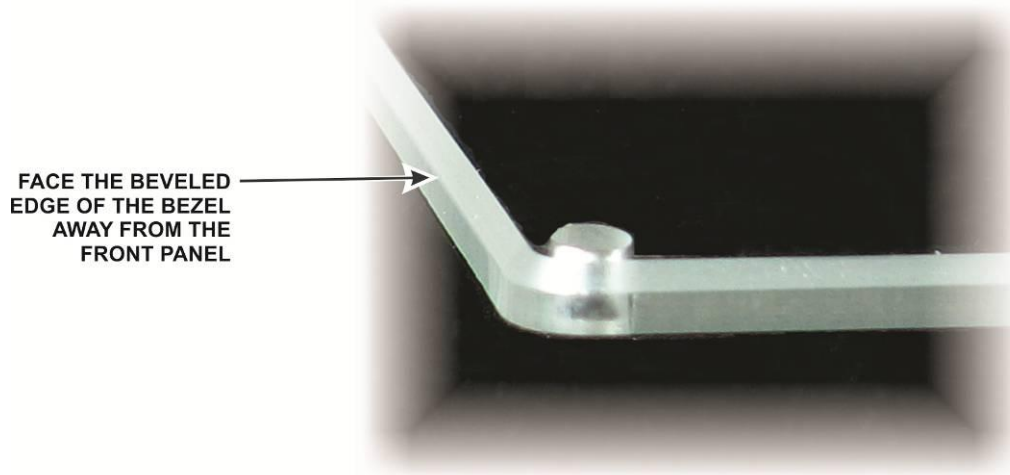

Figure 31. Bezel Beveled Edge.
□ Look closely at the edge of the bezel and note that the edge is slightly beveled on one side (see Figure 31) . This side will face away from the front panel.